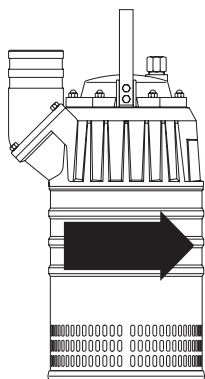

Figure 1: Direction of rotation
- Check the direction of rotation, it should make a jerk in the direction of the arrow on the pump (anti-clockwise). To change direction of rotation shift two phases. (Figure 1)